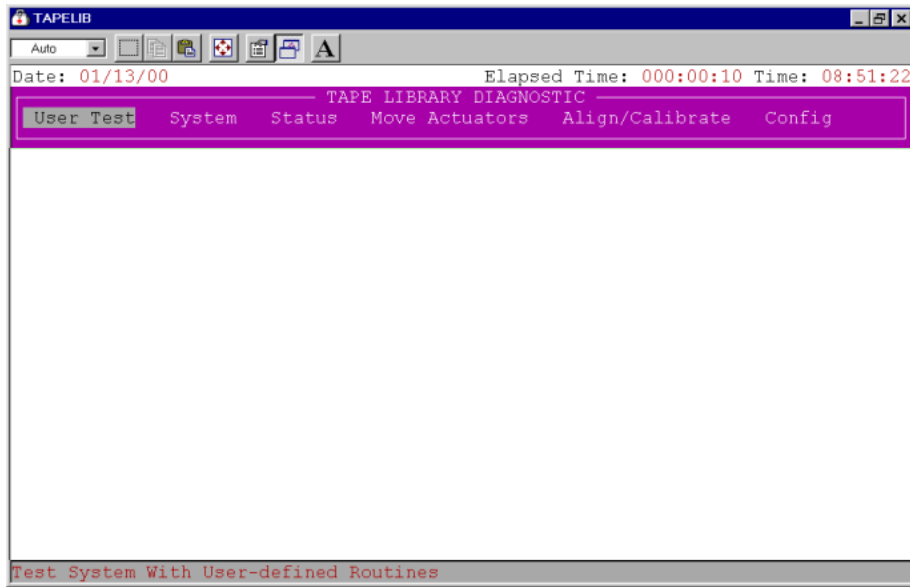

Figure 4-1. Diagnostic software main menu
5. After several seconds, verify that the main menu appears (see Figure 4-1).